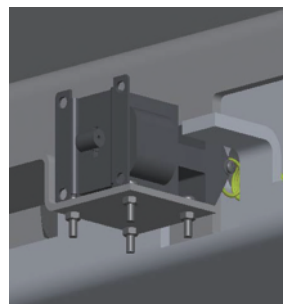

Fig. 2
B.) Keep turning the key switch, control system will automatically release locks through solenoid, Fig. 2., and platform will come down